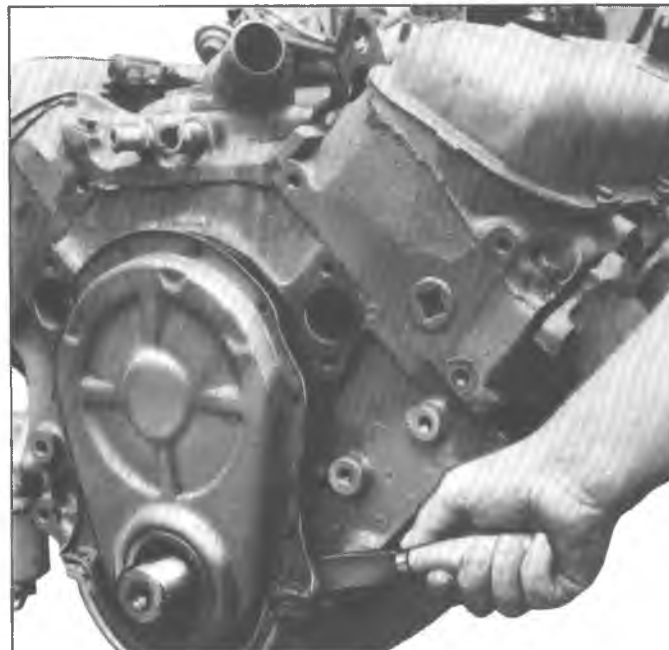

Fig. 16V—Cutting Tabs on Oil Pan Front Seal
5. Using a sharp knife or other suitable cutting tool, cut oil pan front seal flush with cylinder block at both sides of cover (fig. 16V).